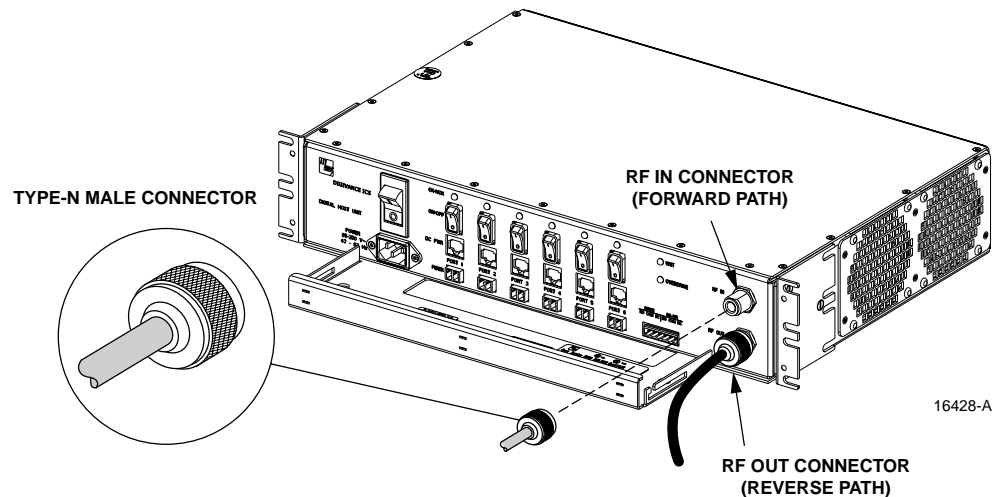

Figure 19. Forward and Reverse Path Coaxial Cable Connections
4. Connect the forward path cable to the **RF IN** connector on the DHU front panel as shown in Figure 19.
5. Connect the reverse path cable to the **RF OUT** connector on the DHU front panel as shown in Figure 19.